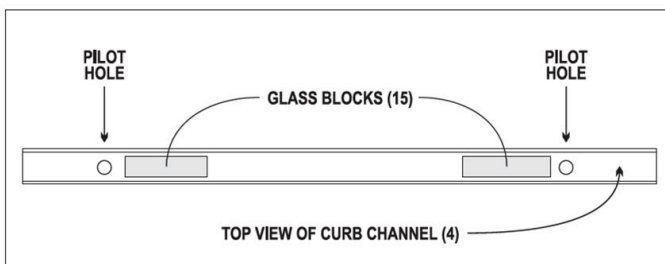
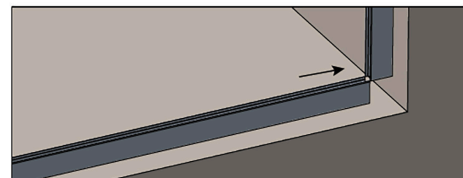
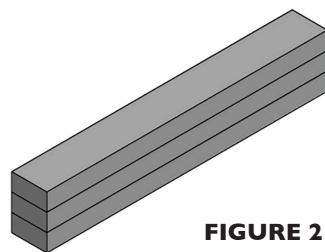
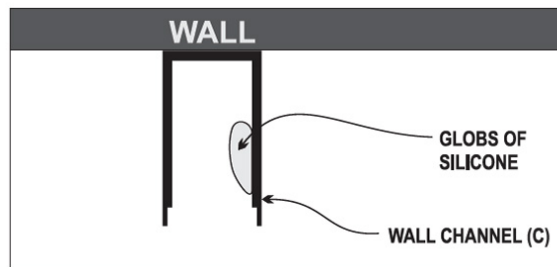

FIGURE 20A
FIGURE 20B
FIGURE 21A
FIGURE 21B
With door in the open position, carefully remove the Glass Panel (P) and Glass Blocks (Q) and drill pilot holes in curb channel as shown in Figure 20A. Replace the Curb Channel (D) under the Wall Channel (C). Use a pencil to mark for pilot holes and remove channel for drilling. Using a 3/16" drill bit, drill two pilot holes through the Curb Channel (D) into base (See Figure 20A). Space both holes per Figure 20A. **PUT A DROP OF SILICONE** in holes, replace Curb Channel (D) and secure with #8 x 2" Screws (K). (See Figure 20B)
Place two stacks of three Glass Blocks (Q) inside the Curb Channel (D) per Figure 20A. **NOTE: DO NOT SET ON SCREW HEADS.** These glass blocks will be used not only to cushion and protect panel from screw heads but to also adjust the height of the panel to match the door. You can remove glass blocks to lower panel, cut glass blocks in half and stack more than three to raise the panel. (See Figure 21A). When ready to install glass, put four or five globs of silicone on the inside of the wall channel (See figure 21B). Set Glass Panel (P) in the Curb Channel (D) on Glass Blocks (Q) and gently push into Wall Channel (C) until glass is even Curb Channel (D).